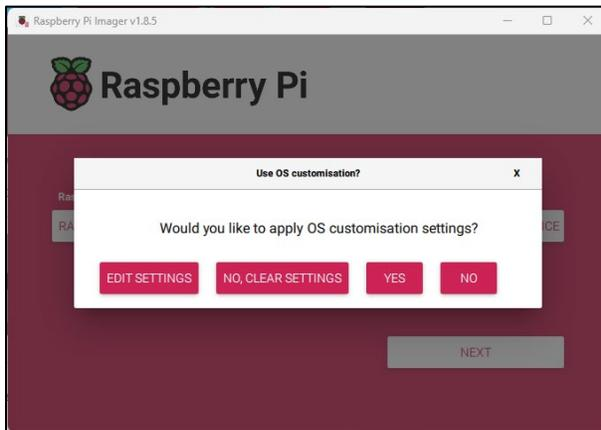
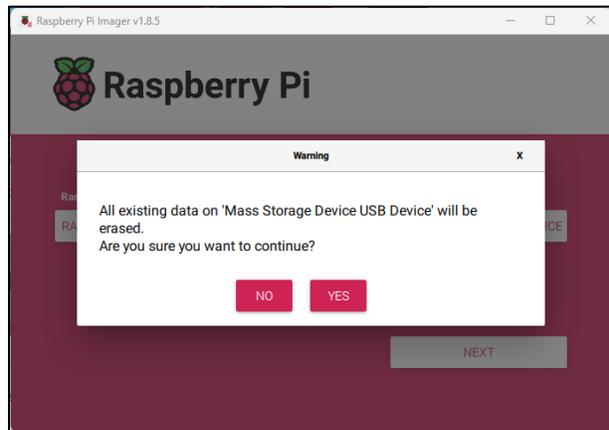

Figure 85 Confirmation
Figure 86 Overwrite Confirmation
9. Navigate through the remaining dialog boxes as shown in **Figure 85** and **Figure 86**.